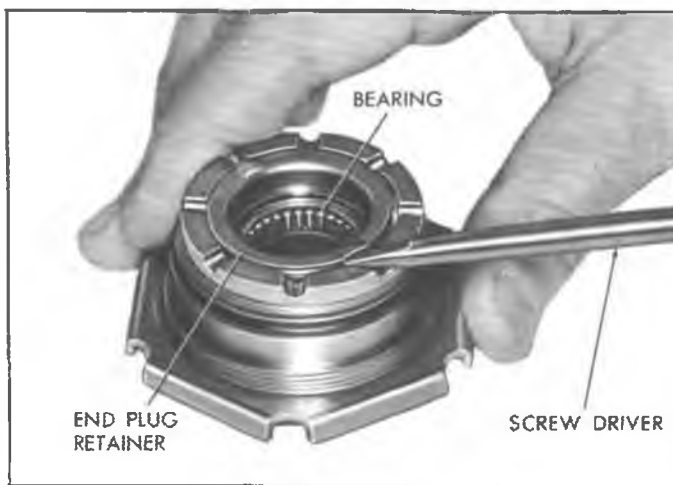

Fig. 38 - Removing Retainer
2. Remove the thrust bearing retainer by prying at the two raised areas with a small screw driver, remove the spacer, thrust bearing washer, thrust bearing and washer (fig. 38).